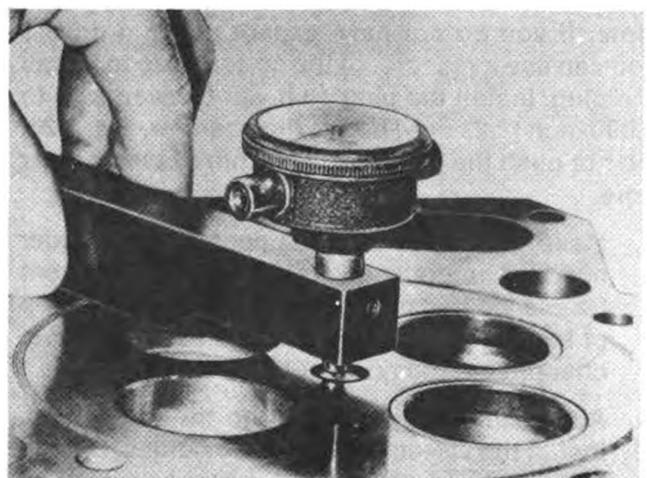

Fig. 2-24 (N10206). Measure The Protrusion Of The Injector Tip.
3. Install the injector assembly into the sleeve. Tighten the capscrews to 10 to 12 ft.-lbs. [14 to 16 N•m] torque. Use the Part No. ST-547 Gauge Block to measure the protrusion of the injector tip, Fig. 2-24. The protrusion of the tip must measure 0.060 to 0.070 inch [1.52 to 1.78 mm].